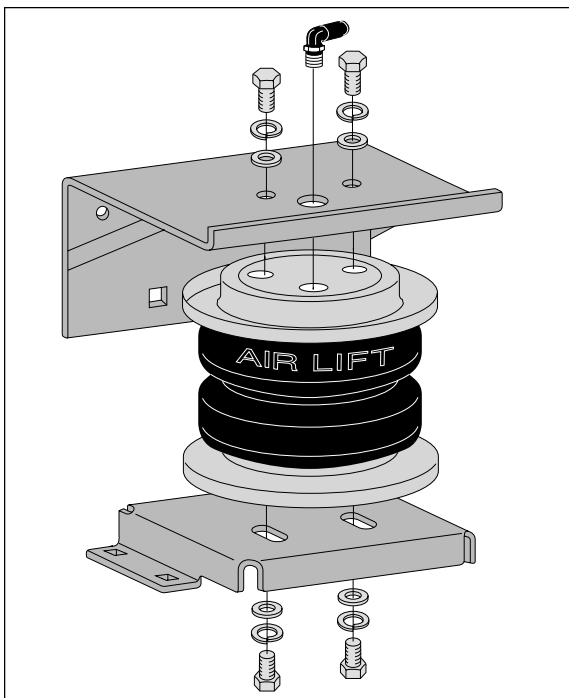
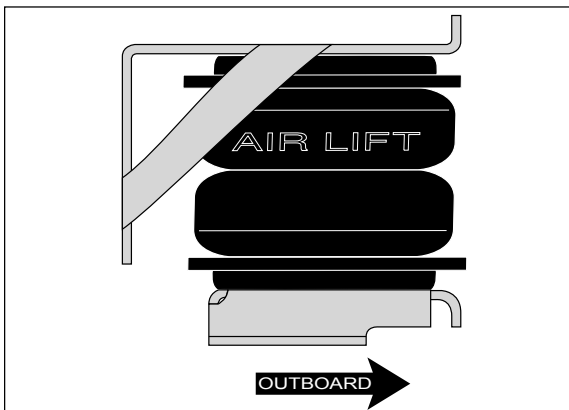

Figure 2
Figure 3
1. Set a roll plate (D) on both ends of the air spring (A). The radiused (rounded) edge of the roll plate will be towards the air spring, so that the air spring is seated in both roll plates (Figure 2).
2. Install 90 degree elbow fitting (E) to the top of the air spring. Tighten finger-tight plus 1 and 1/2 turns. Be careful to only tighten on the metal hex nut. Do not over tighten.
3. Set the upper bracket (B) over the top of the air spring. Attach the upper bracket using two 3/8" bolts (F), two lock washers (G), and two flat washers (H). Tighten securely (Figure 2).
4. Set the lower bracket (C) on to the bottom of the air spring. NOTE: The bracket will be offset to the outside of the vehicle (Figure 3). Attach using two 3/8" bolts (F), two lock washers (G), and two flat washers (H). Leave loose at this time for later adjustment (Figure 2).